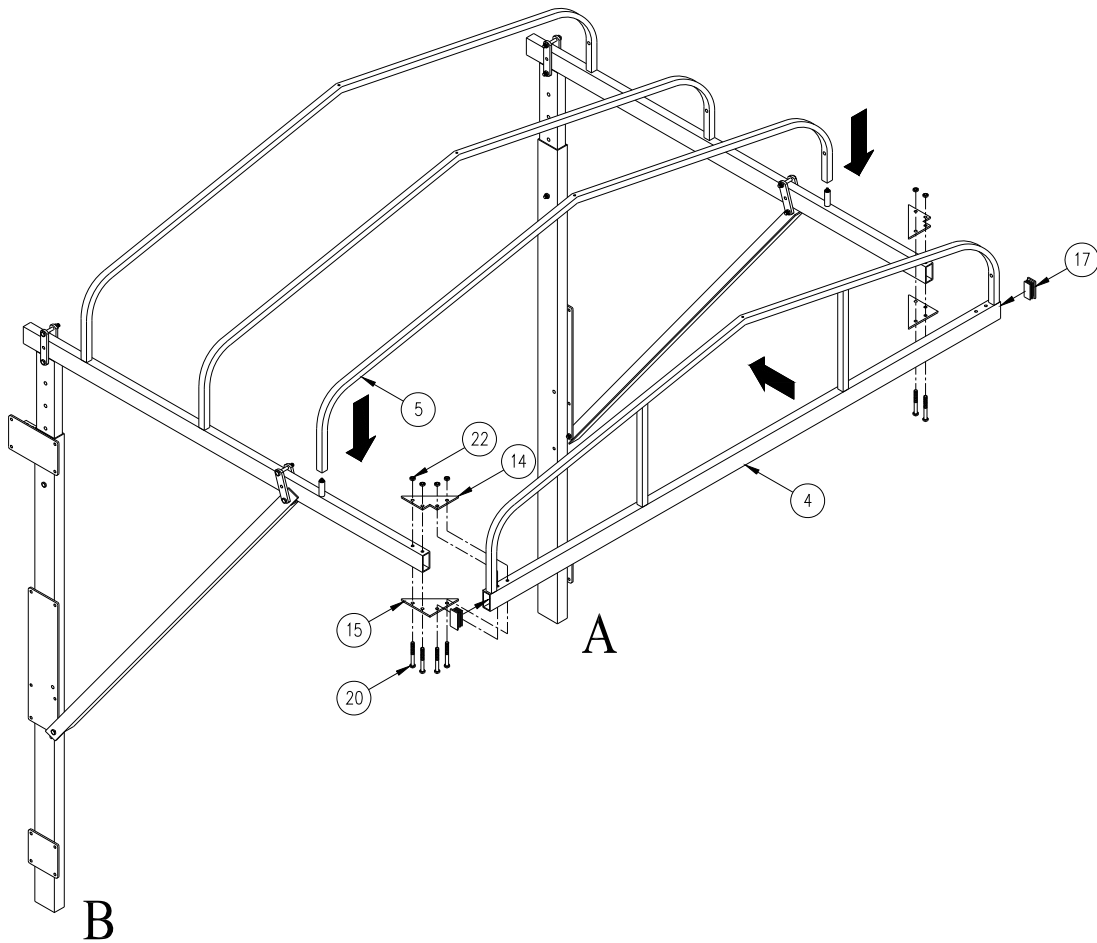

Figure 2-5.
5. Refer to **Figure 2-5**. Attach each canopy end cap to the side stringers using (1) top gusset, bottom gusset, and hardware shown for each corner connection. Before tightening hardware, square the canopy frame by placing a carpenter or combination square into each corner and positioning canopy stringers and end caps to provide a 90 degree corner joint. Tighten hardware to lock into position.